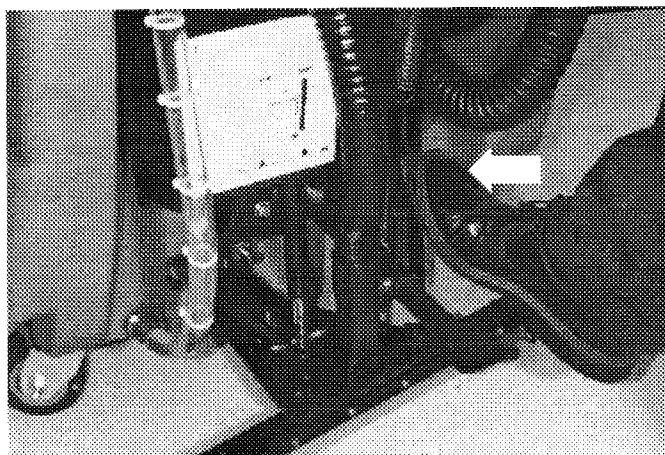

FIG. 13
4. Lower brush head, depress top brush lift foot pedal forward to release. (Figure 13)